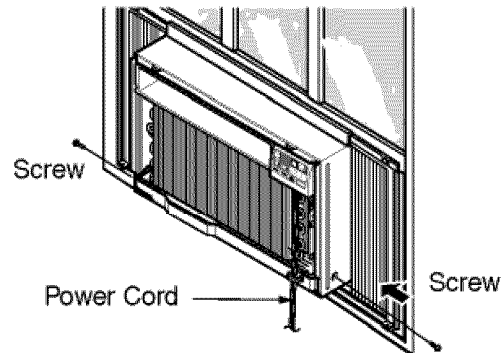

Fig. 7
7. Slide the unit into the cabinet.(See Fig. 7)